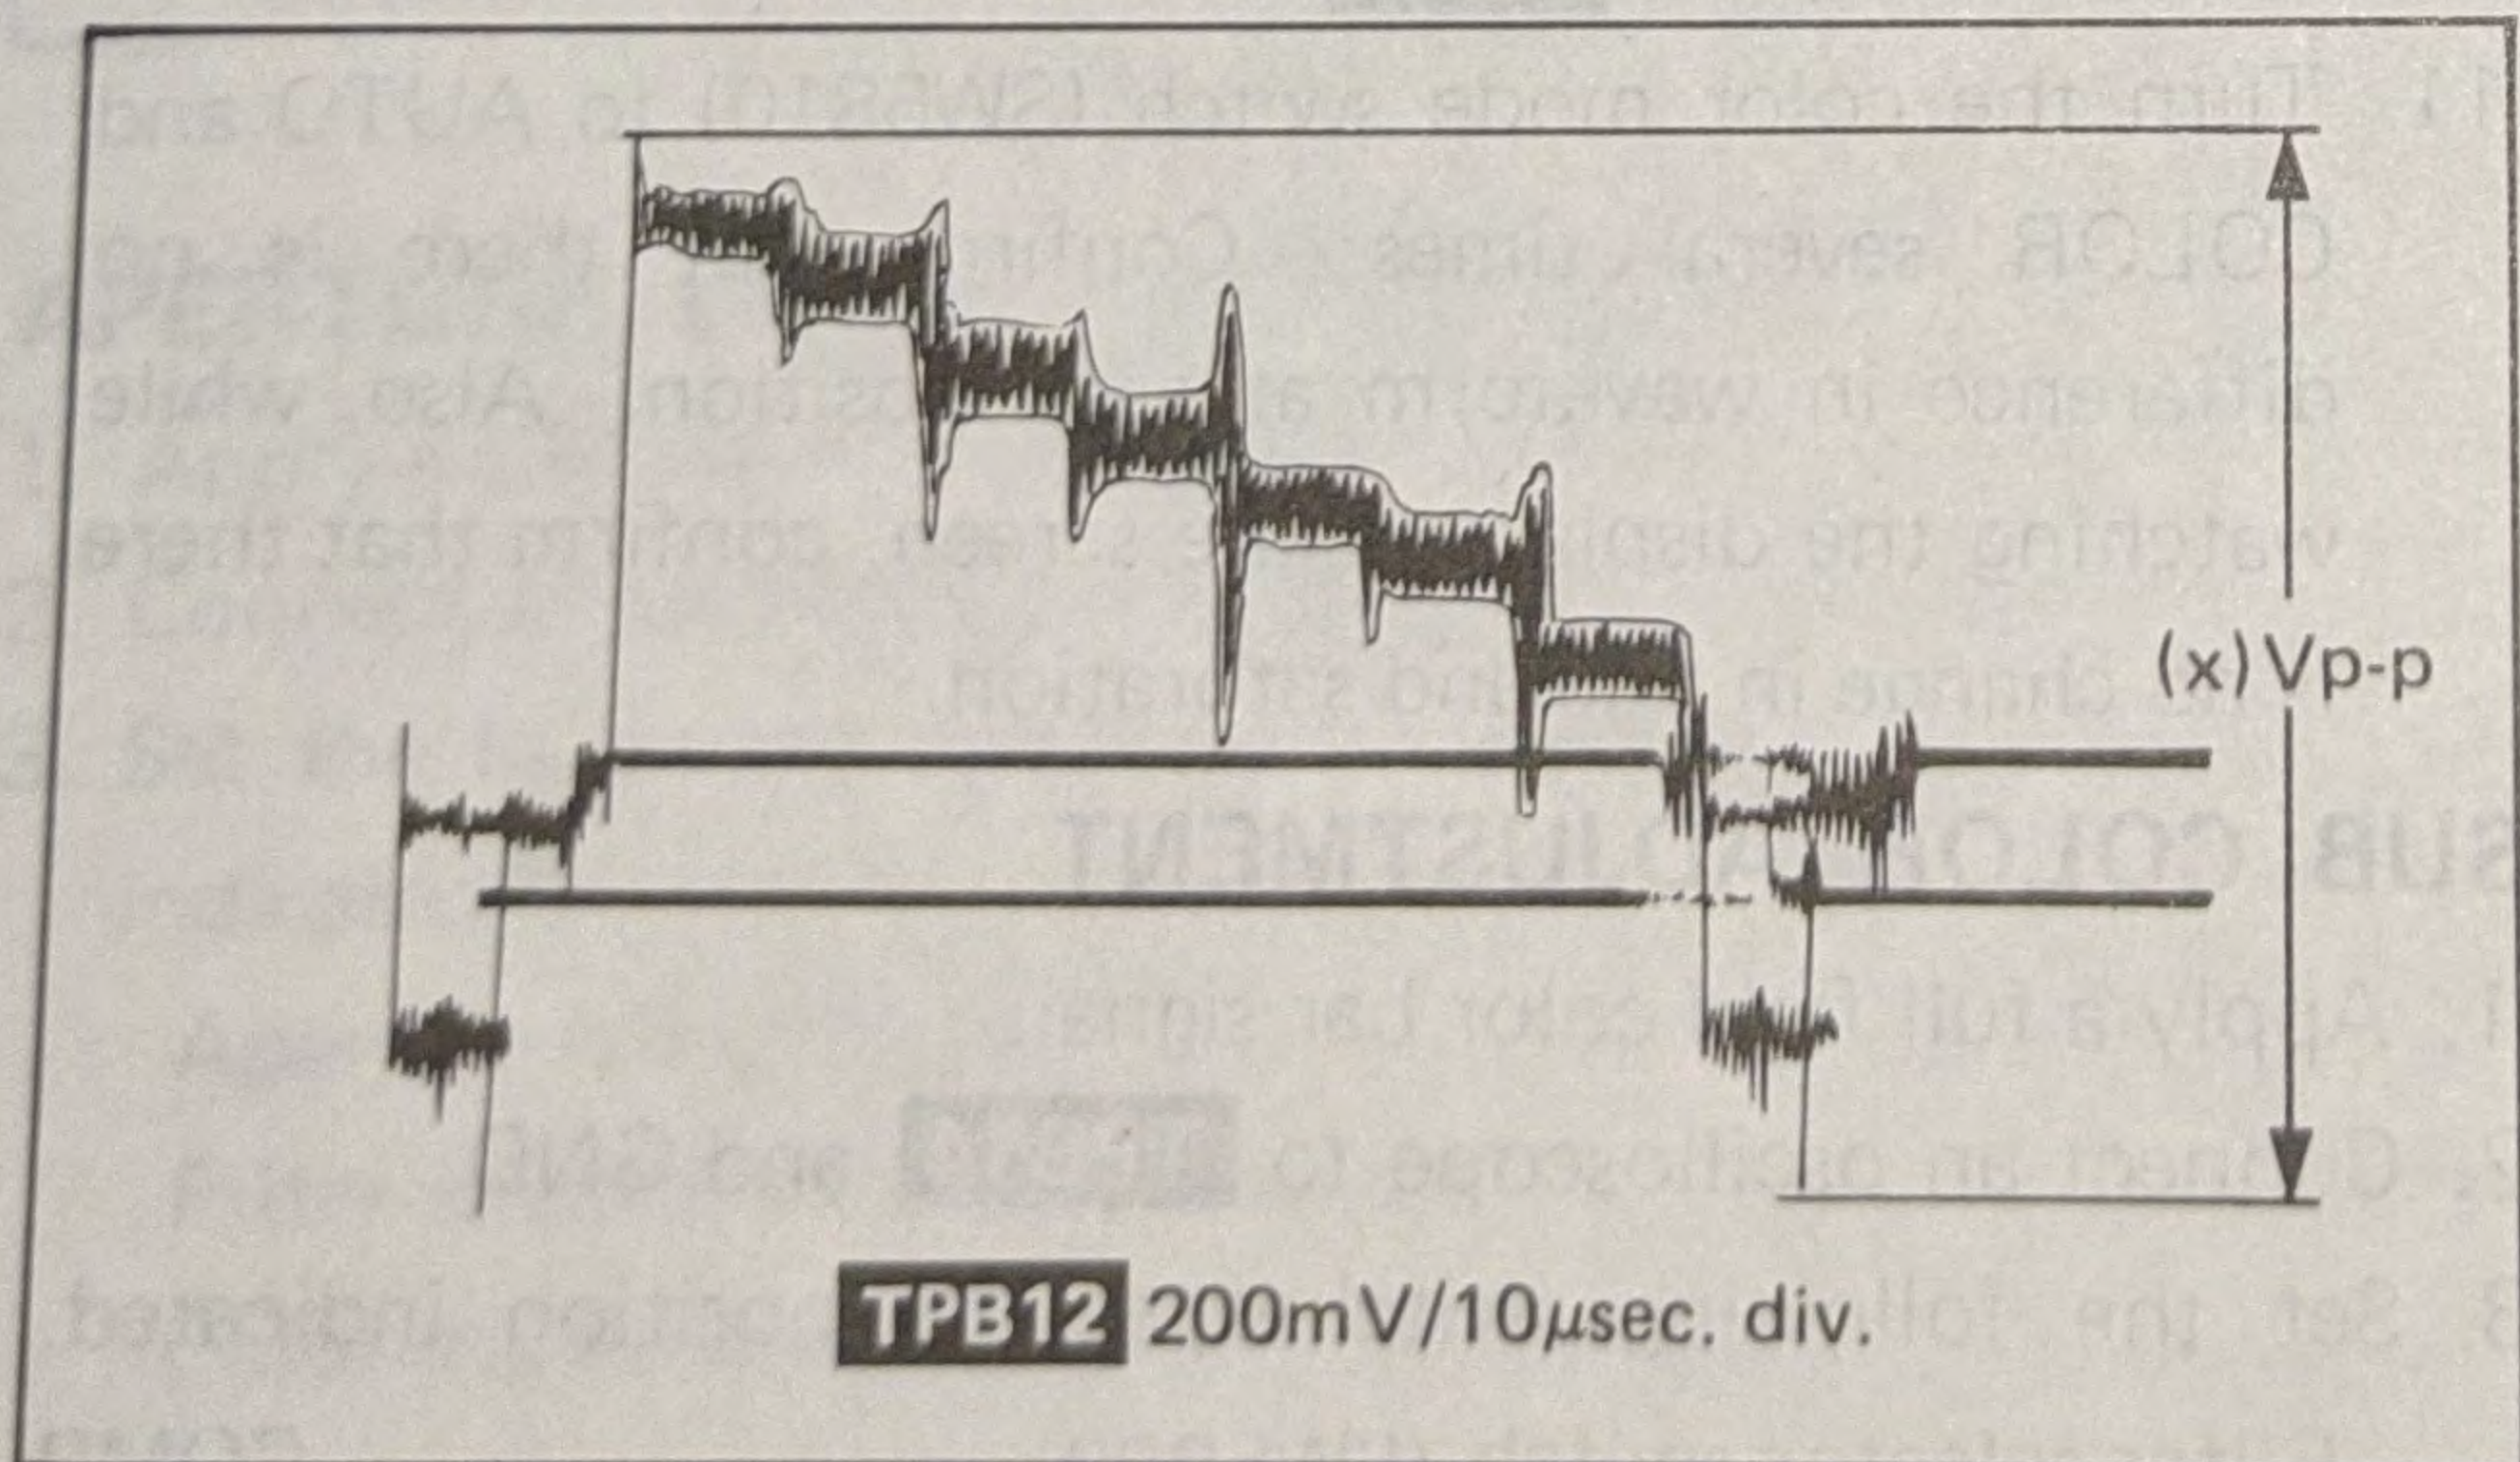

Fig. 41
4. Measure and record the amplitude of the waveform **TPB12** as shown in Fig. 41.